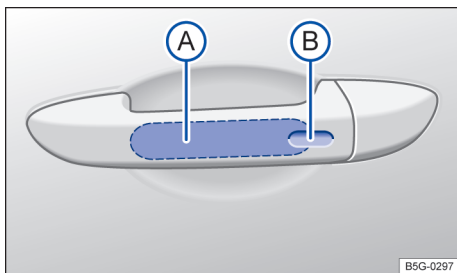

Fig. 51 Keyless Access system: Unlocking and locking sensors on the outside door handle.
Key to **fig. 51**:
- Grasp the door handle of the driver or front passenger door so that you touch the unlocking sensor surface → **fig. 51 A**.
- Touch the lock sensor surface in the door handle on the driver or front passenger door → **fig. 51 B** *one time*. The vehicle is locked. The door being locked must be closed.
- Within 5 seconds, touch the lock sensor surface on the door handle on the driver or front passenger door → **fig. 51 B**.
To use the convenience closing feature to close all power windows and the power sunroof, hold your finger on the lock sensor surface on the outside of the door handle → **fig. 51 B** for a few seconds until the windows and the power sunroof close.